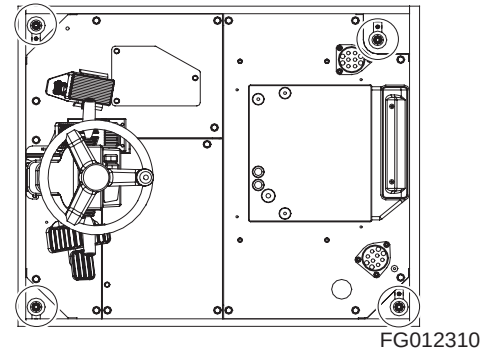

Figure 7
15. Remove four mounting nuts and washers from four corners of cabin floor (Figure 7).